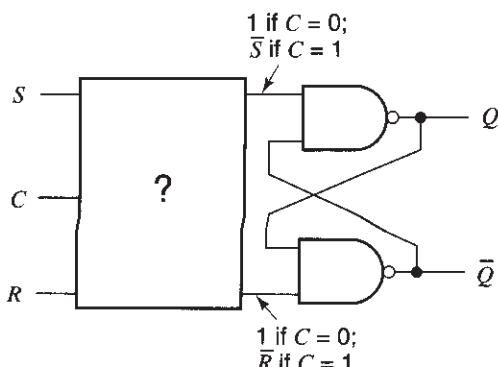

Fig. 11
20. In the latch of Fig. 8, the outputs may change as soon as the inputs are changed. In some applications, this is not desirable. Instead, one may want to change the inputs to the desired values and *then* give a signal to the latch to change its output accordingly. Such a signal is provided by an "enable" input. To make such an operation possible, you need some additional circuitry in front of the latch, as shown in Fig. 11. You will be asked below to figure out what this circuitry is. The operation is to be as follows: First, desired values are applied at S and R . While the value at C is low, information about the inputs S and R is *not* allowed to pass to the latch; both latch inputs are 1 in
this case. As soon as C is made high, the *complements* of S and R are sent to the latch as indicated. This sets or resets the latch, according to what we have seen in step 19. The function table for this operation is shown in Fig. 12. In the first row of this table, the symbol \times means a “don’t care”; i.e., an input can be either 0 or 1. Figure out the circuitry inside the box in Fig. 11 to accomplish this. (*Hint:* The box contains only two NAND gates.) This circuit is called a “gated,” or “clocked,” SR latch.
21. Build the complete circuit of Fig. 11. To apply a logic 1 to S or to R , tie that input to +5 V through a switch or wire. To apply a logic 0, tie the input instead to 0 V. If you have a digital breadboard with data switches, you can use one of them for the signal at C . Alternatively, you can use the circuit of Fig. 13; the switch should preferably be a push-button one. The switch is normally open, and the output of the circuit is zero; when the switch is pressed, the output becomes +5 V.